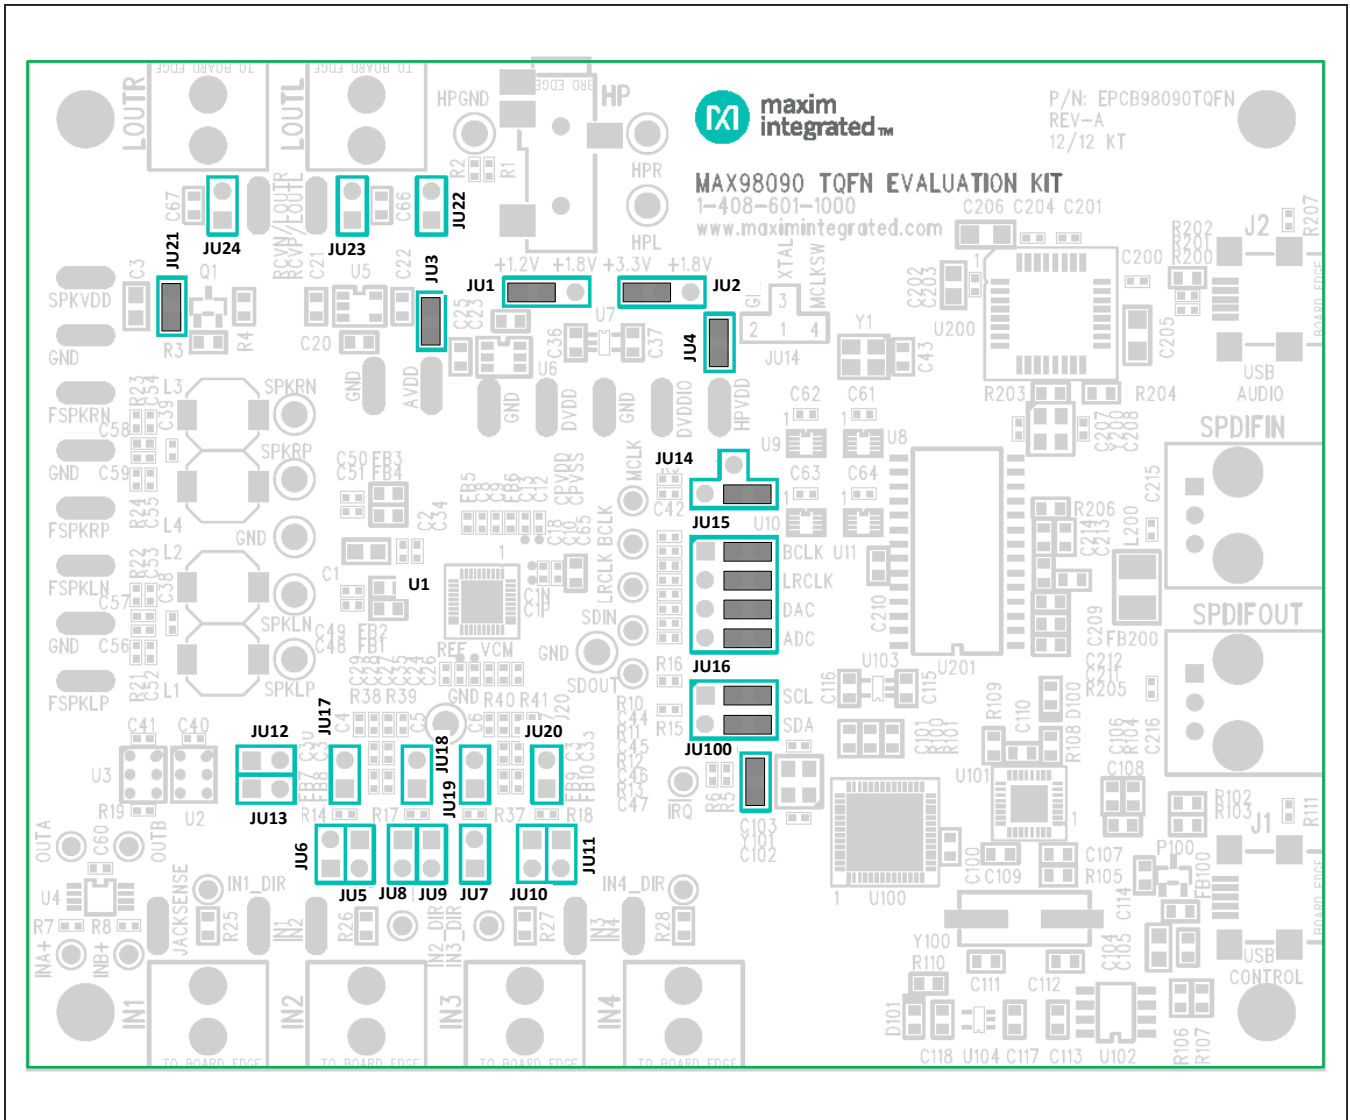
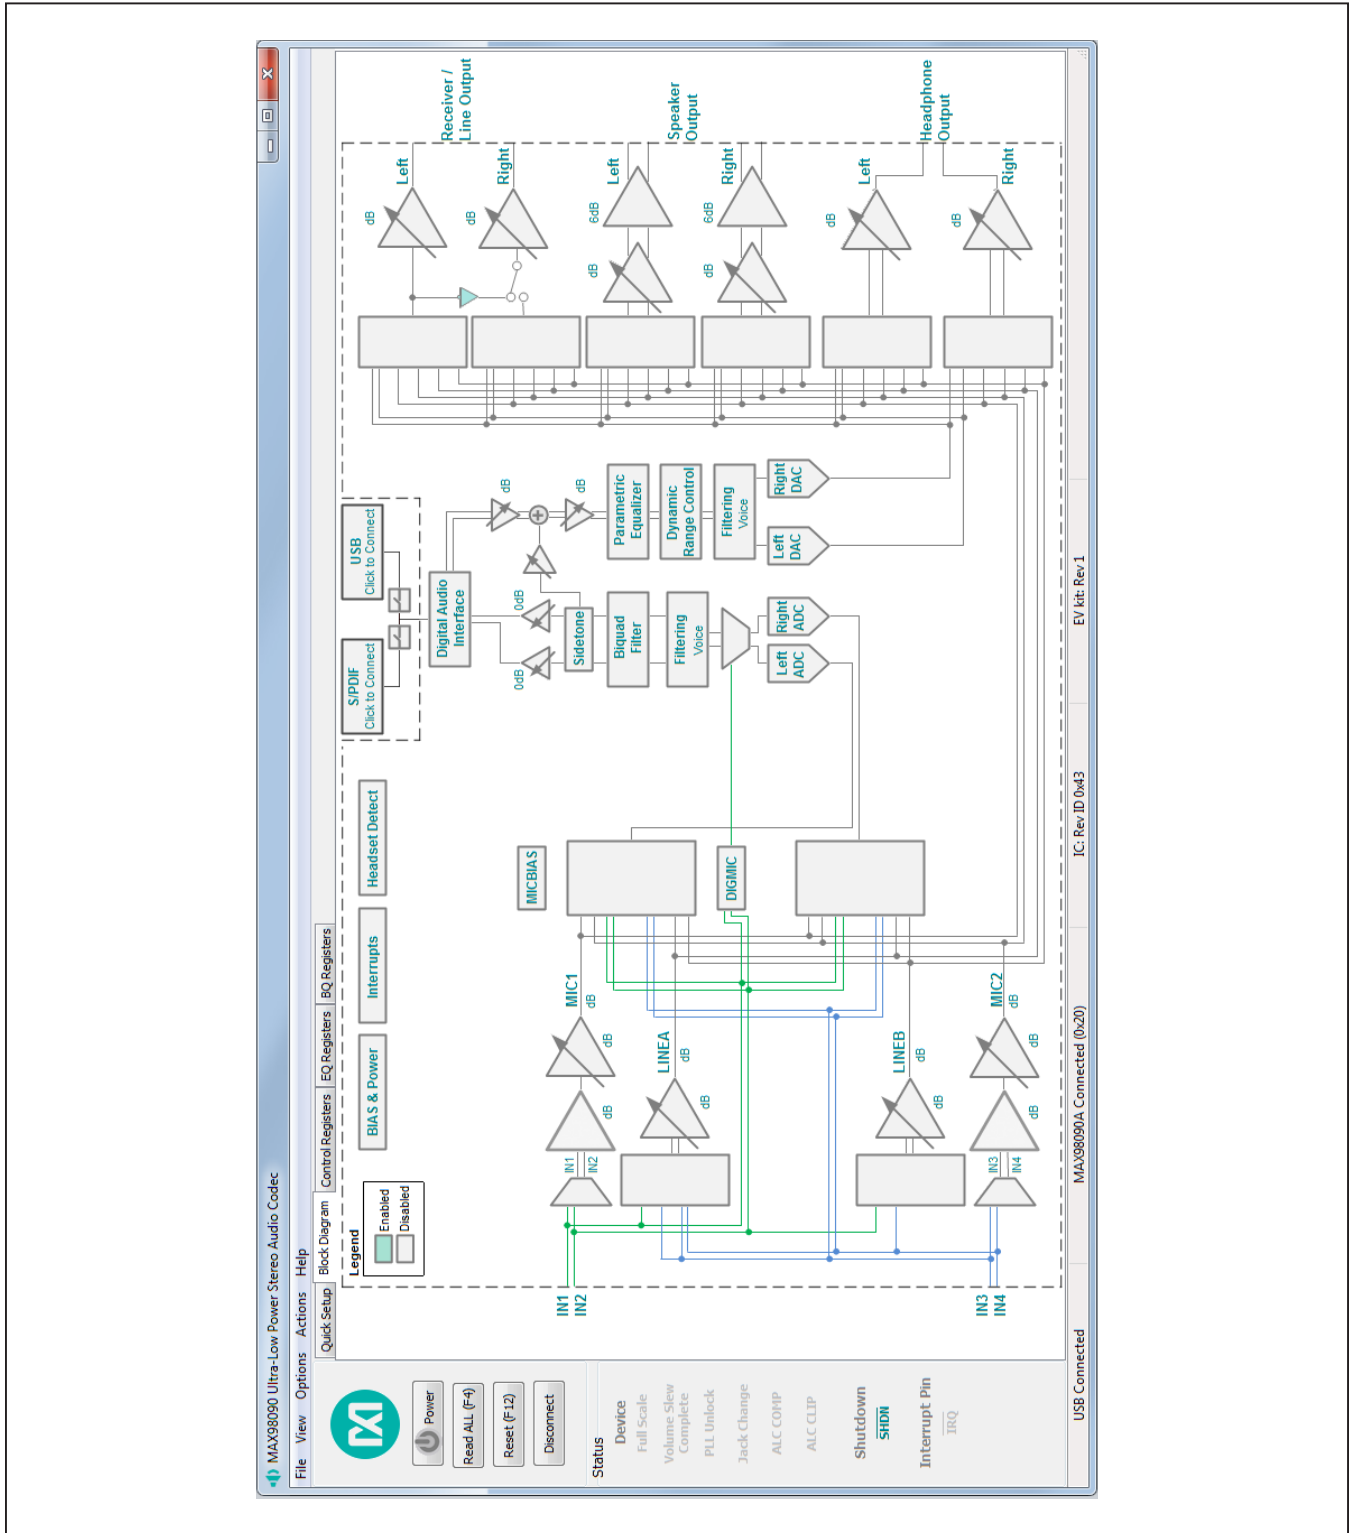

Figure 2. Default Shunt Configuration
Figure 4. MAX98090 Software Main Window
- 3) Verify that all jumpers are in their default positions, as shown in Figure 2 (same as listed in Table 2).
- 8) Connect headphones to the headphone jack (HP).
- 9) Start the MAX98090 software by opening its icon in the **Start | Programs | Maxim EVKIT Software** menu. The software main window appears, as shown in Figure 4.
The MAX98090 software main window is divided into three sections: software buttons, status panel, and tabbed pages (Figure 4). The buttons provide basic functionality and the status panel provides monitoring capabilities. The tabbed pages provide the controls to program the MAX98090.